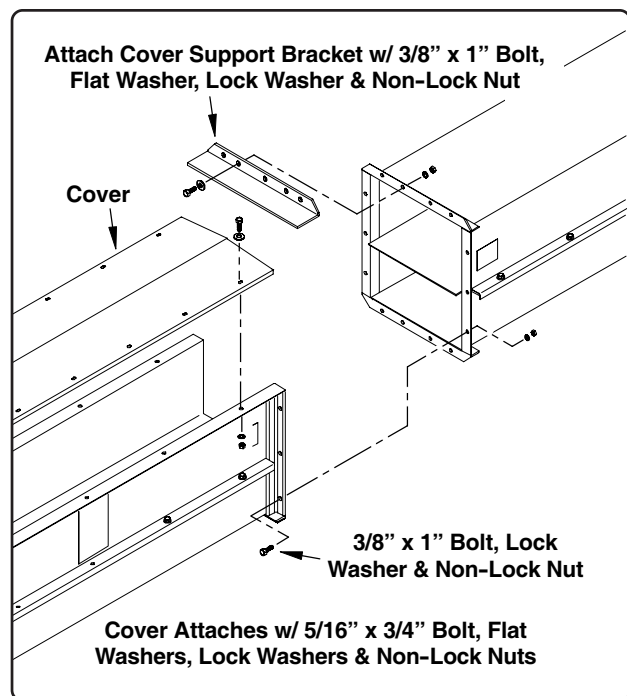

Fig. 9
- A bolt-on cover trunk section can also be connected to a solid cover trunk as shown in Fig. 9 below. The trunks are connected using 3/8" x 1" bolts, lock washers and non-lock nuts.
- A cover support bracket will need to be installed when making the bolt-on cover to solid cover connection (See Fig. 9). Secure the support bracket to the solid cover trunk section using 3/8" x 1" bolts, lock washers and non-lock nuts.